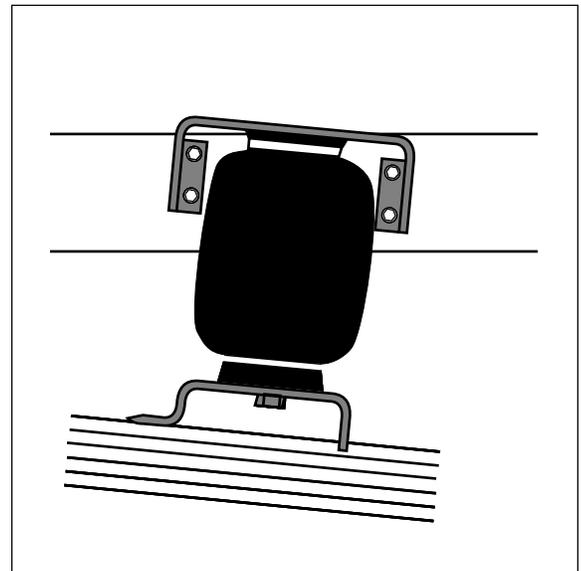

Figure 8
- Check to see that the sleeve rolls back down over the bottom piston after the vehicle is lowered (Figure 8 and 9).
8. *Should it become necessary to raise the vehicle by the frame, make sure the system is at minimum pressure (10 p.s.i.) to reduce the tension on the suspension/brake components.* Check to see that the sleeve rolls back down over the bottom piston after the vehicle is lowered (Figure 8). If sleeve fails to roll back down over the piston, add air pressure until sleeve “pops” back over piston (do not exceed 100 p.s.i.).